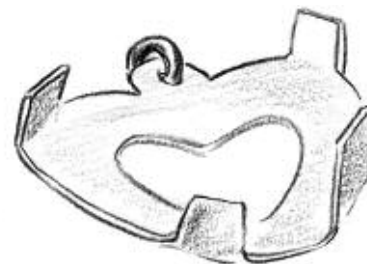
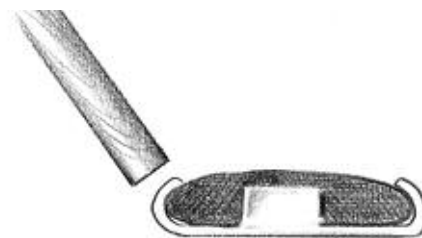

Figure 3.
Figure 4.
Step 6. Bend the tabs so they stand straight up. Use your fingers if you can; if not, use pliers. (Figure 3) Set the beach stone in position, and press the tabs down with a wooden dowel or a piece of plastic. (Figure 4) I have cut the bristle portion off a toothbrush to make a convenient pushing tool.